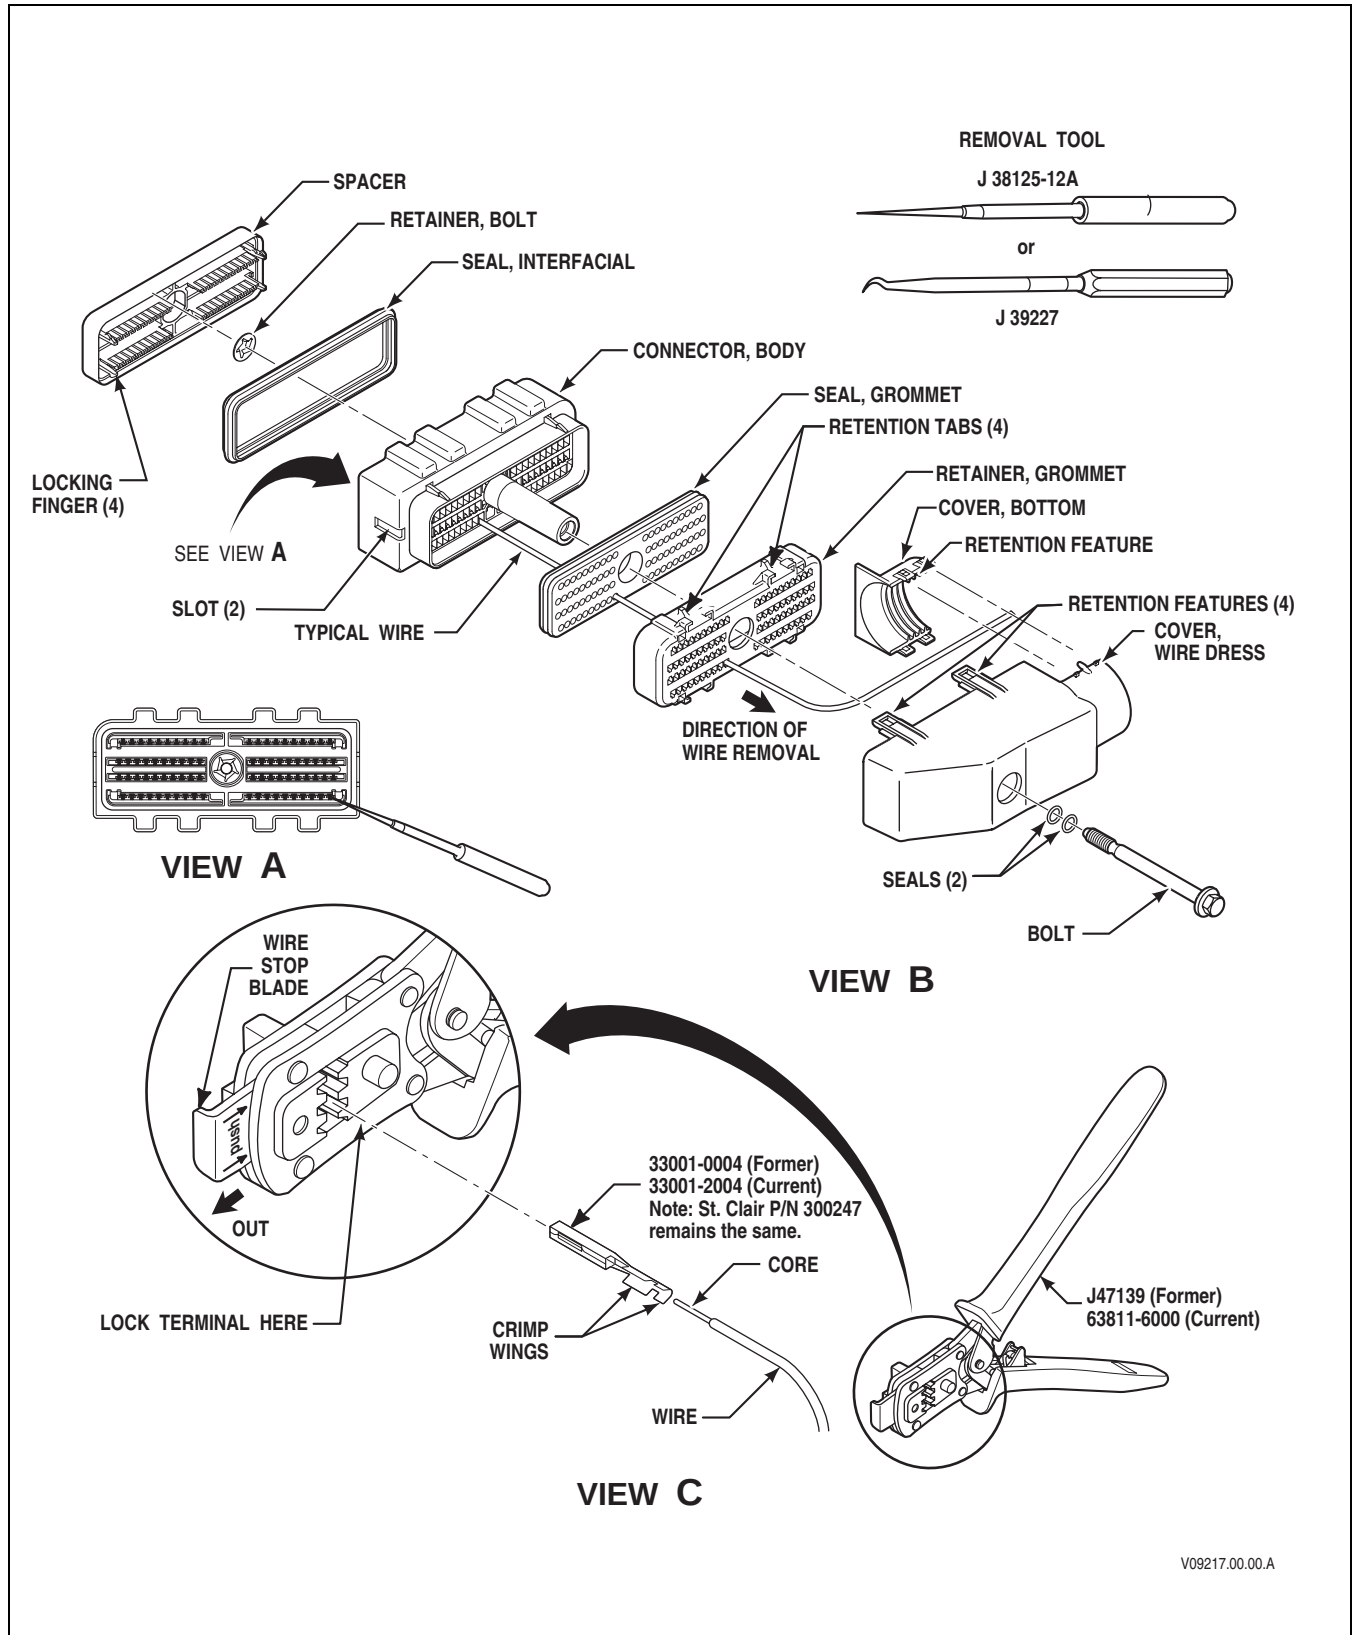

Figure E-1B. AFL 80F Bolt-Assist, Direction 'A' 90 Degree TCM Connector
B. TCM Connector, Assembly 80F Bolt Assist, Direction 'A' 90 Degree Wire Dress (refer to Figure E-1B)
- Refer to Figures E-1B or E-1C, View B. Use a small-bladed screwdriver to gently unlatch the retention features (2) of the wire dress cover and remove it from the backshell wire dress. Gently release the retention features (4) of the backshell wire dress and remove it from the connector body.